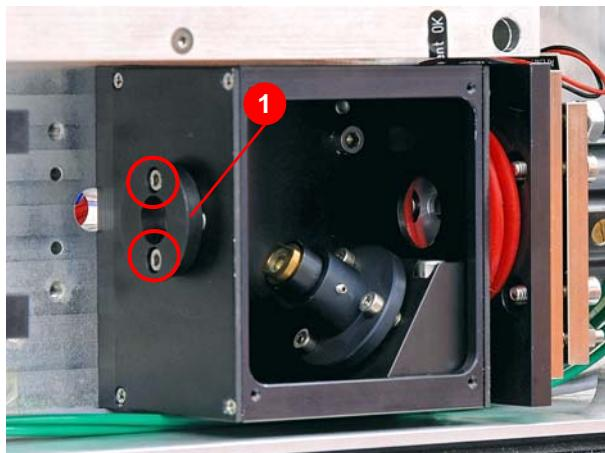

Figure 4.42 Housing for the alignment laser/
6. Remove the coupling mirror (1) (Figure 4.42).